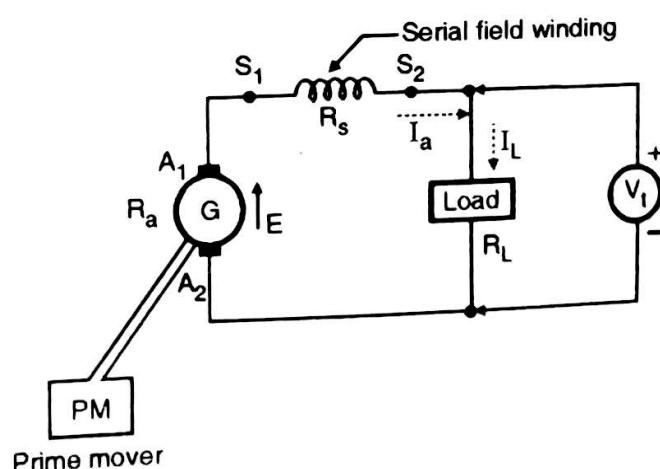

Fig. 5.8 : A series generator
- In a series generator, the field winding is connected in series with the armature winding as shown in Fig. 5.8.
- The series combination then supplies the load current. Note that in Fig. 5.8, the field winding terminals are marked as  $S_1$  and  $S_2$ , just to indicate that the field winding is in series with the armature winding.